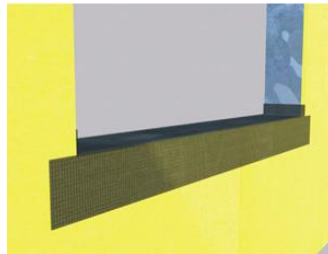

Figure 2
- 3) Immediately lay the AquaFlash Mesh into the wet material and brush smooth adding additional material to completely embed the mesh – Figure 2.